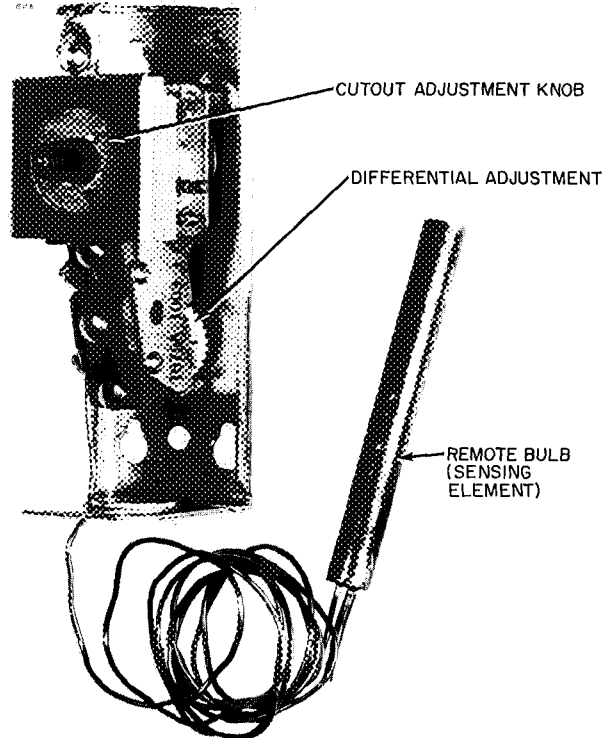

Fig. 14 — Low-Temperature Cutout (Located in Control Panel)
1. Turn differential adjustment (Fig. 14) to no. 3 on the scale.
3. Turn cutout adjustment knob (Fig. 14) slowly clockwise until contacts open. Condensing water pump starter, solution and refrigerant pump starters and RUN light de-energize. Marks on scale are for reference only since they may not be in exact calibration with switch action.
1. Turn differential adjustment (Fig. 14) to 3 on scale.
3. Fill the thermoswitch well (item 33, Fig. 1), located on the strong solution line between heat exchanger and spray header, with heat conductive compound and insert the bulb (Fig. 14) into the well.